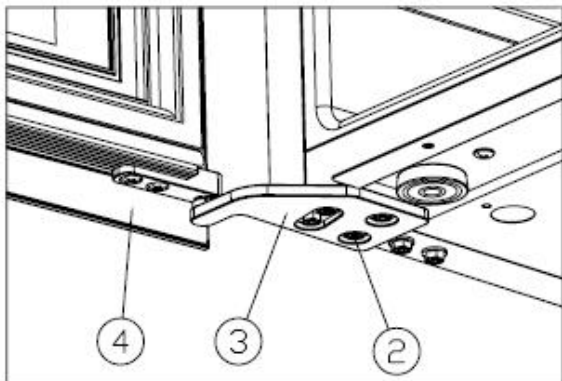

Figure 5
- ✧ Install the right upper hinge ③, and screw tight the M5*16 screws②.[Figure 5]